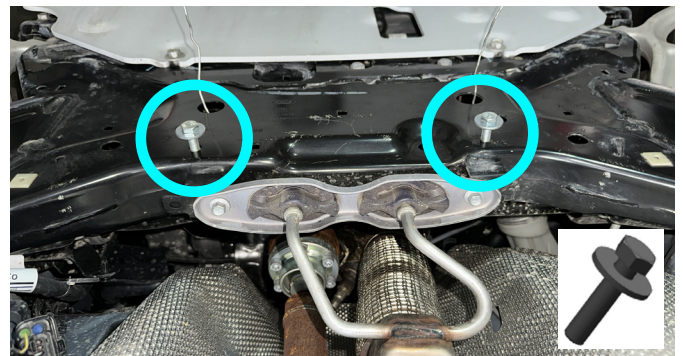

Fig. 4
4. Loosely install M8x25 bolts with M8 washers (items A, B) into M8 insert nuts installed in the previous step as shown in Fig 4.